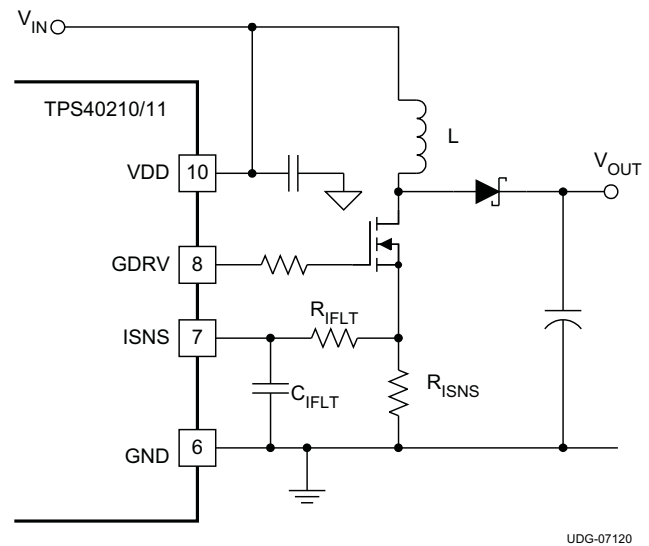

Figure 26. Current Sense Components
- V_D is the drop across the diode in Figure 26
It is possible to increase the voltage compensation ramp slope by connecting the VDD pin to the output voltage of the converter instead of the input voltage as shown in Figure 26. This can help in situations where the converter design calls for a large ripple current value in relation to the desired output current limit setting.
In most cases, a small filter placed on the ISNS pin improves performance of the converter. These are the components R_{FLT} and C_{FLT} in Figure 26. The time constant of this filter should be approximately 10% of the nominal pulse width of the converter. The pulse width can be found using Equation 20.